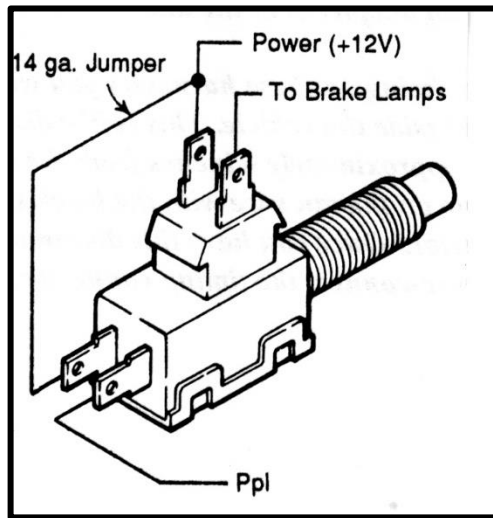

Figure 6.3 Brake Switch Connection
- F. If you are using the recommended brake switch then you will wire it according to **Figure 6.3**. The wire jumped to the back of the switch in the illustration is the wire that has power on it whether or not the brake is being applied. If you have installed your own switch then it must connect the single purple wire to power ONLY when the brakes are NOT being applied. If you are using a hydraulic brake switch see **Diagram 1** for proper wiring using a relay.